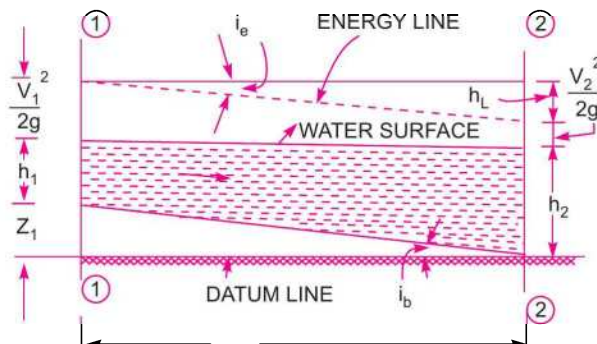

Fig. 16.31 Length of back water curve.
**16.9.3 Expression for the Length of Back Water Curve.** Consider the flow of water through a channel in which depth of water is rising as shown in Fig. 16.31. Let the two sections 1-1 and 2-2 are at such a distance that the distance between them represents the length of back water curve.
From Fig. 16.31,  $Z_1 = i_b \times L$